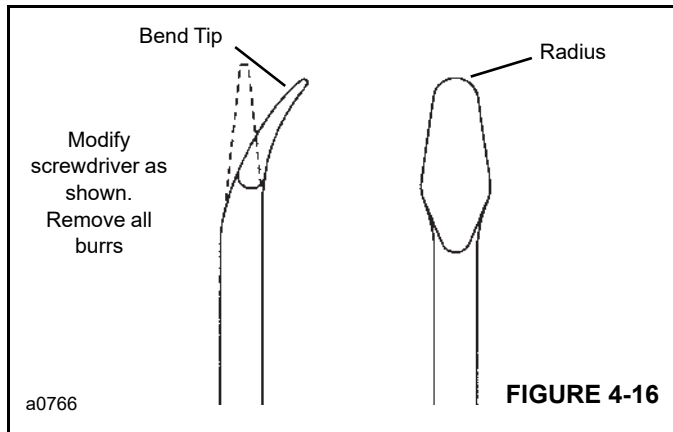
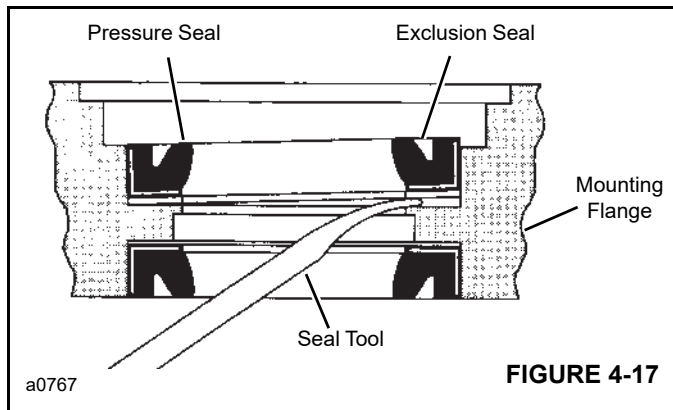

FIGURE 4-16
FIGURE 4-17
14. Exclusion seal (2), backup ring (4), shaft pressure seal (5) and seal (6) will come off with flange (3). Use the seal removal tool to remove the exclusion and pressure seals Figure 4-16 and Figure 4-17.